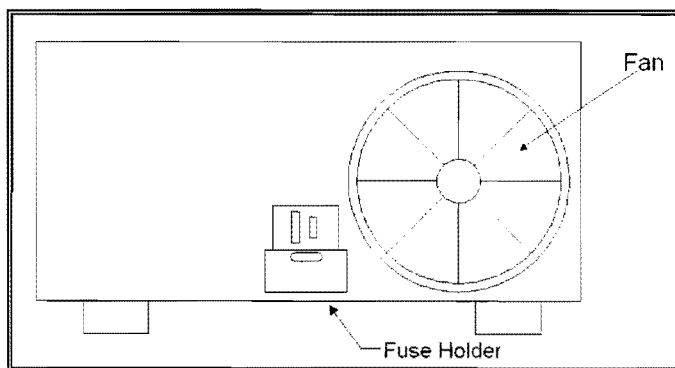

Figure 23
4. The fuse holder is located on the rear of the light box (see Figure 23). Use a small screwdriver and gently pry out from the small slot located on top of the fuse holder.